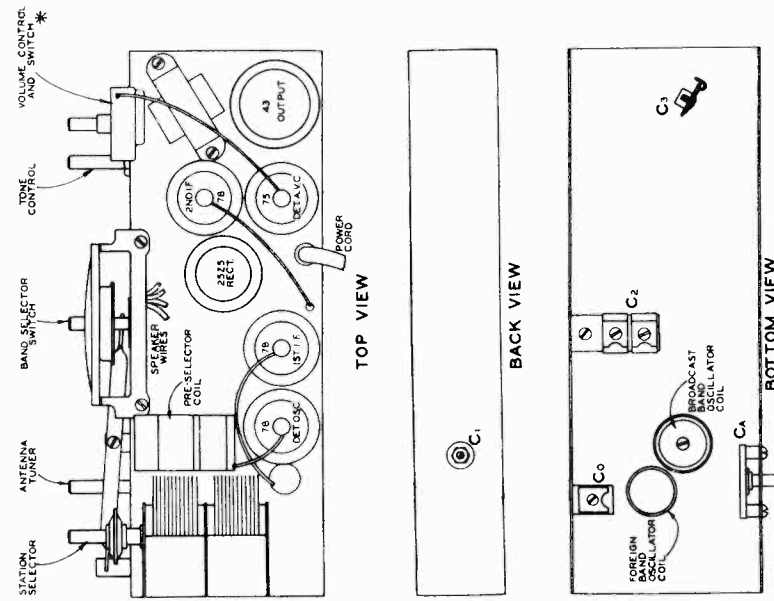

Fig. 6. CHASSIS DIAGRAM FOR SPARTON MODELS 65, 65-T, 66 AND 66-T
- (1) The dial pointer should be exactly parallel with the horizontal lines on the scale when the selector rotor plates are completely in mesh with the stator plates. The pointer may be reset, if necessary, by first loosening the nut on the planetary drive
- (2) Turn on receiver and test oscillator, and allow both to operate several minutes before attempting to align any condensers.
- (3) **Warning:** Before connecting test oscillator to receiver, be sure to read carefully the operating instructions included with the test oscillator. Connect "antenna" of test oscillator to grid cap of type 78 first detector oscillator tube, and "ground" of test oscillator to chassis frame of receiver.
- (4) Tune test oscillator to obtain signal of 456 kilocycles.
- (5) Turn volume control of receiver on full, and place Band Selector Switch in Broadcast Position. Make sure condenser plates are turned all the way out.
- (6) Adjust I-F condensers (C₁, C₂, and C₃). See Fig. 6.
- (7) Disconnect "antenna" leads of test oscillator tube and connect to the antenna terminal of the chassis.
- (8) Tune test oscillator to obtain a signal of 1500 kilocycles.
- (9) Tune station selector of receiver to 1500 kilocycles. Also adjust antenna tuning condenser (C_A).